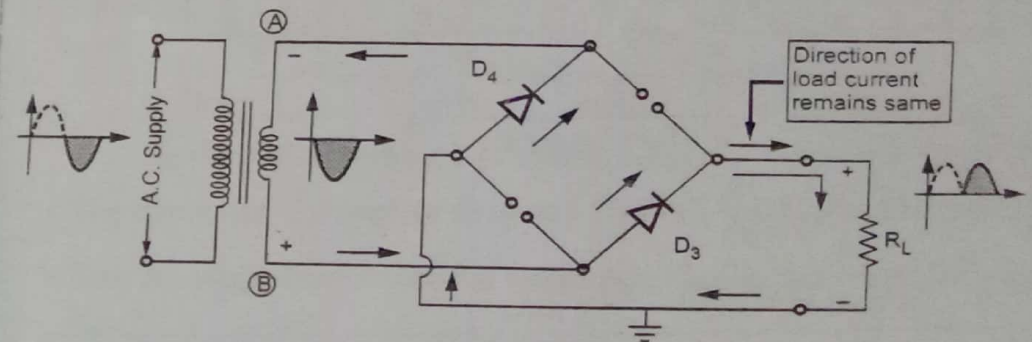

Fig. Q.27.3 Current flow during negative half cycle
• In the next half cycle, when the polarity of ac voltage reverses hence point B becomes positive diodes D₃ and D₄ are forward biased, while D₁ and D₂ reverse biased. Now the diodes D₃ and D₄ conduct in series with the load and the current flows as shown in Fig. Q.27.3.